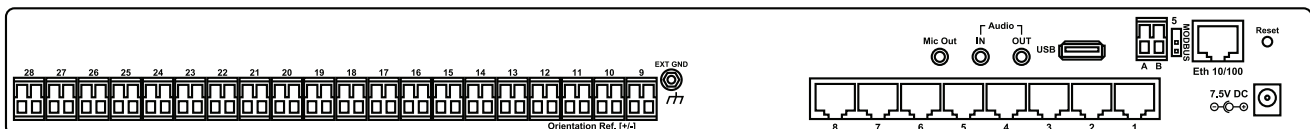

Figure 3-28. Intelligent sensor Port 1.
1. Plug the sensor into one of the RJ-45 “intelligent sensor ports” on the ServSensor’s rear panel. In this example, we will use Port 1. See Figure 3-28.